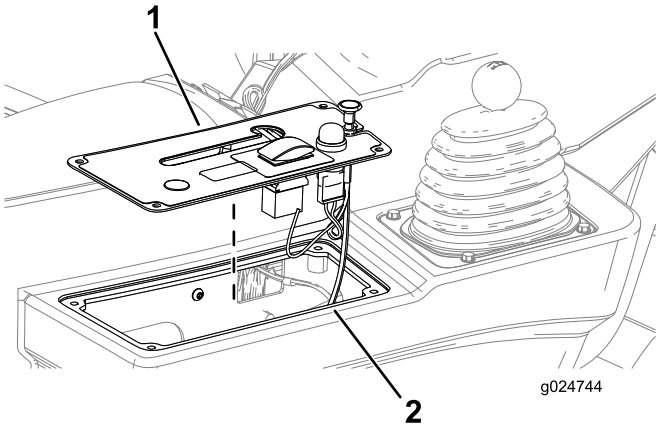

Figure 53
7. Align the control-panel cover to the side console (Figure 53).